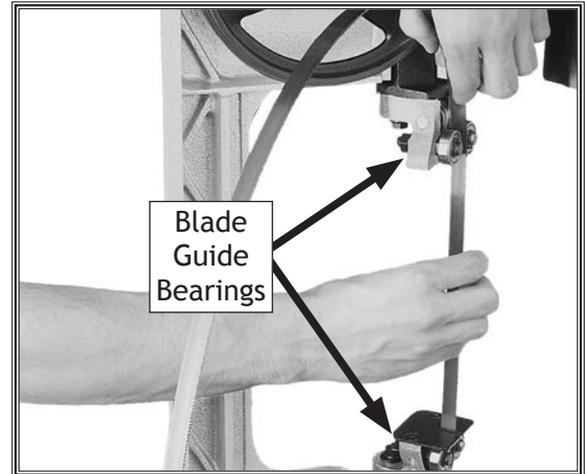

Figure 41. Installing the blade.
4. Install new blade through both blade guide bearings, as shown in **Figure 41**, around bottom wheel.